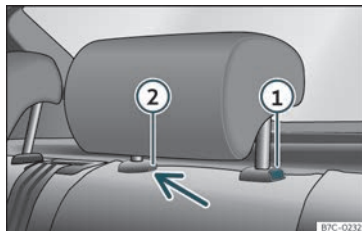

Fig. 100 Rear headrest: removal.
• Press button >>> Fig. 100 ①, while simultaneously pressing on the security hole ② with a flat screwdriver a maximum of 5 mm wide, and remove the headrest.